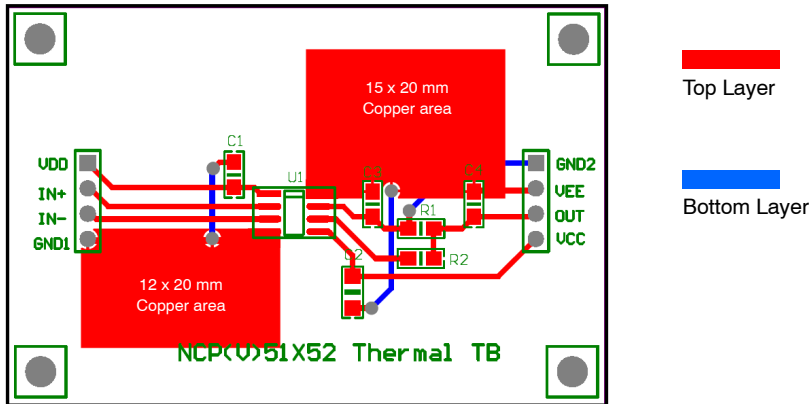

Figure 4. Reference Layout for the Type–A
- 7. As specified for a reference layout shown in Figure 4. The DUT is mounted on a 60 x 40 x 1.6 mm FR4 substrate with an additional heat spreading copper of 240 mm²/300 mm² (Primary/Secondary). The copper thickness is 1 oz and test conditions is under natural convection or zero air flow.